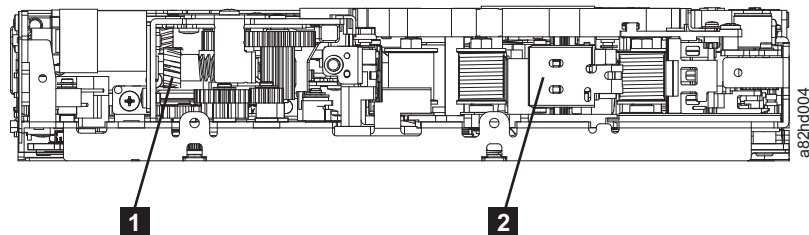

Figure E-13. Leader Block Assembly (LBA)
6. Rotate the loader intermediate gear (**1** in Figure E-13) clockwise as viewed from the front of the drive until it stops. This releases the LBA leader pin.
7. Rotate the threader motor worm gear (**3** in Figure E-13) counterclockwise until the leader block is in front of the Read/Write head. This moves the LBA out of the cartridge.
8. Rotate the loader motor worm gear (**3** in Figure E-13) counterclockwise as viewed from the front of the drive until it stops.